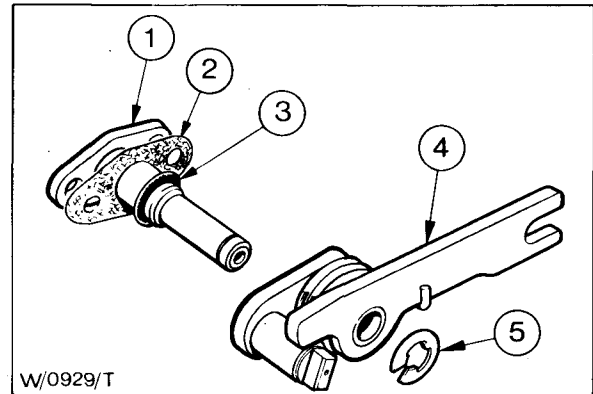

Fig. 76 - Rocking Lever and Pivot Shaft Assembly (Turbocharged Pumps)
1. Turbocharged pumps - Assemble the rocking lever. Place the spring on the bottom link fulcrum bush with the short hook leading. Engage the fulcrum bushes of the links and hook both ends of the spring onto their respective links. Rotate the links against the spring tension and engage the short arm on the top link over the bush on the bottom link. Ensure the spring coils are not trapped in the fulcrum bush and push the link assembly fully together and fit the retaining circlip (Fig. 76).